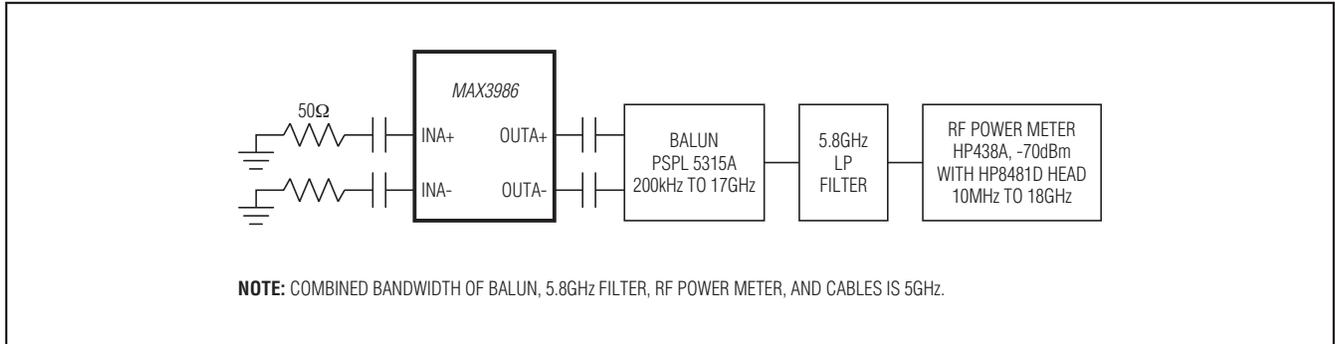

Figure 2. Noise Measurement Setup
**Note 8:** Measured using a broadband power meter with BW ≤ 18GHz and a 17GHz differential to single-ended adapter (i.e., balun) for approximately 10GHz bandwidth. An additional filter is necessary to create a combined, total upper limit of 5GHz. See Figure 2.